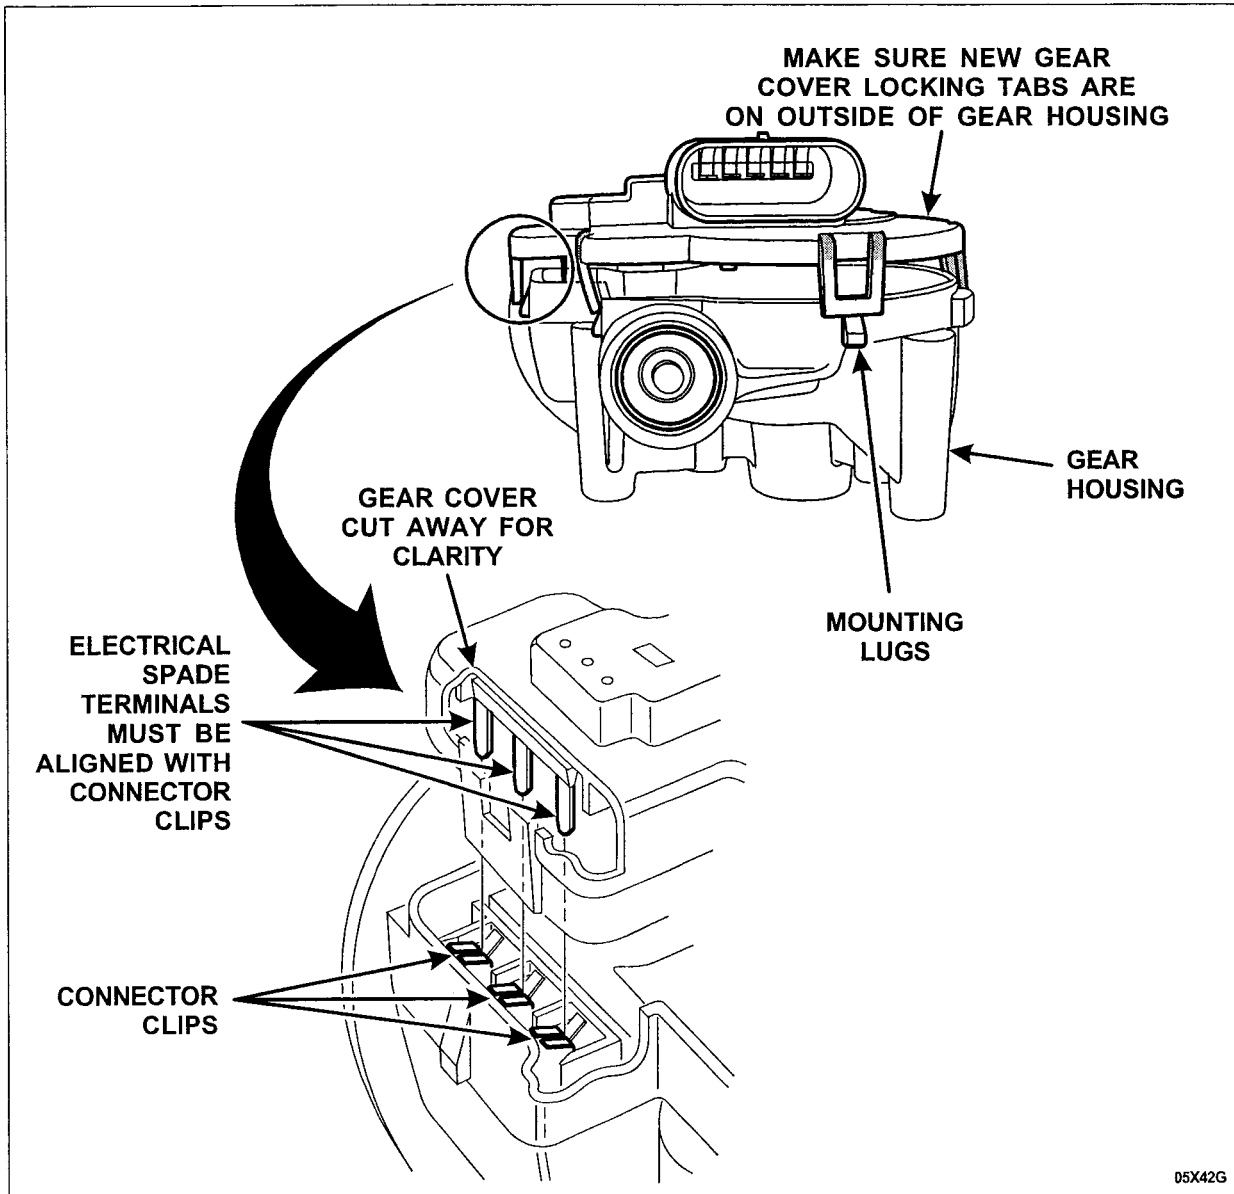

FIGURE 7
6. **IMPORTANT:** Position the cover on the gear housing so that each plastic locking tab is outside of the gear housing cavity and is resting over the mounting lugs. Ensure that the electrical spade terminals are lined up with the connector clips. See Figure 7.